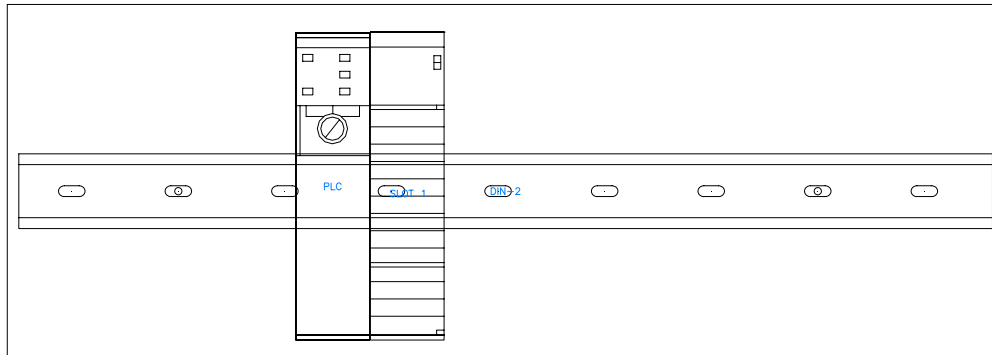

Figure P2-9 The SLOT 1 inserted in the drawing
19. Choose the **OK** button; the SLOT 1 is inserted in the drawing, as shown in Figure P2-9.